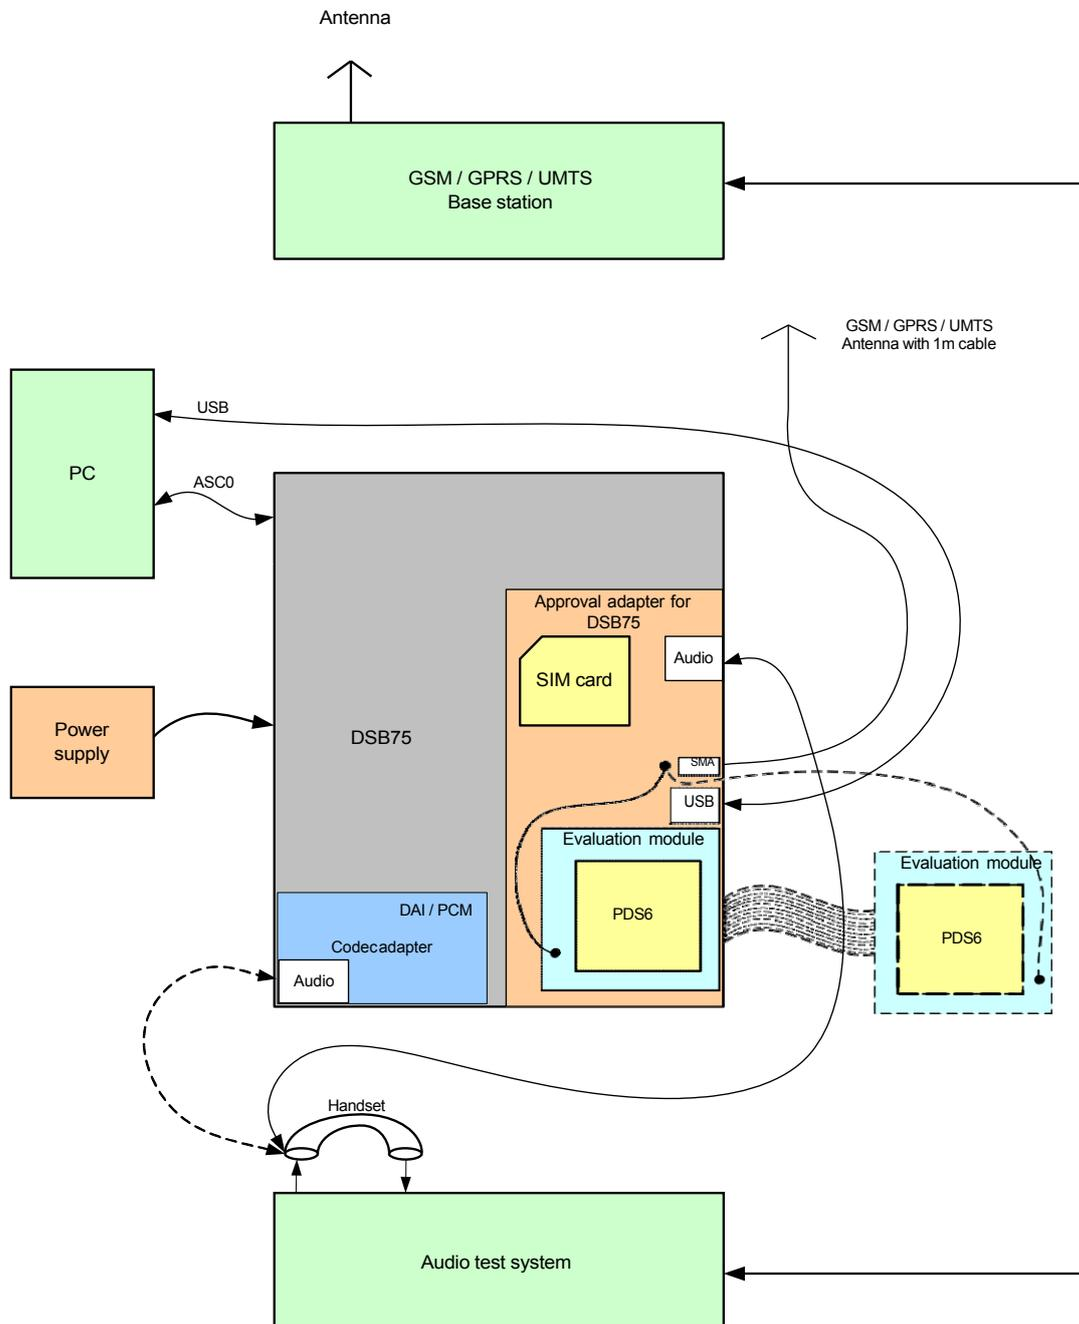

Figure 7: Reference equipment for Type Approval
1. For RF performance tests a mini-SMT/U.FL to SMA adapter with attached 6dB coaxial attenuator is chosen to connect the evaluation module directly to the GSM/UMTS test equipment instead of employing the SMA antenna connectors on the PDS6-DSB75 adapter as shown in Figure 7. The following products are recommended: